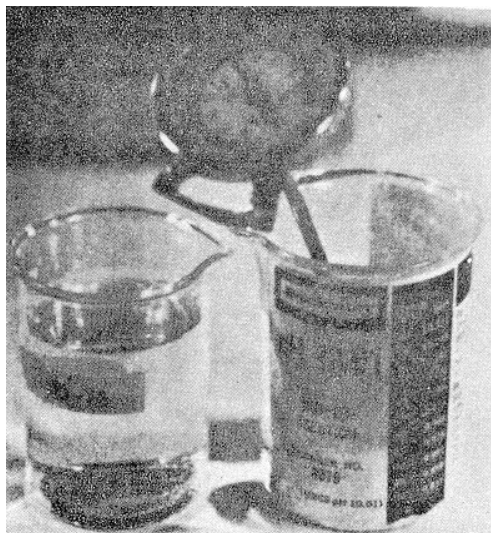
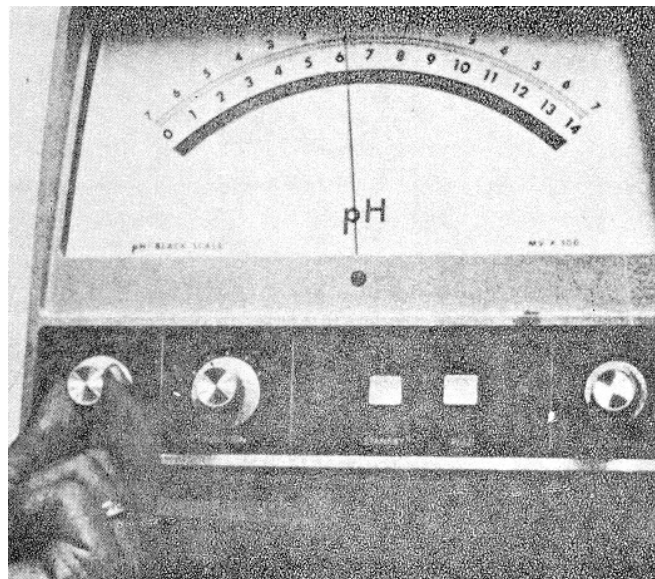

Figure 5
Figure 6
3. The buffer solution should be at the same temperature, if possible, as the sample to be analyzed. Measure the temperature of the buffer with a thermometer (figure 5) and set the temperature compensation dial (figure 6) at that temperature in degrees Centigrade.